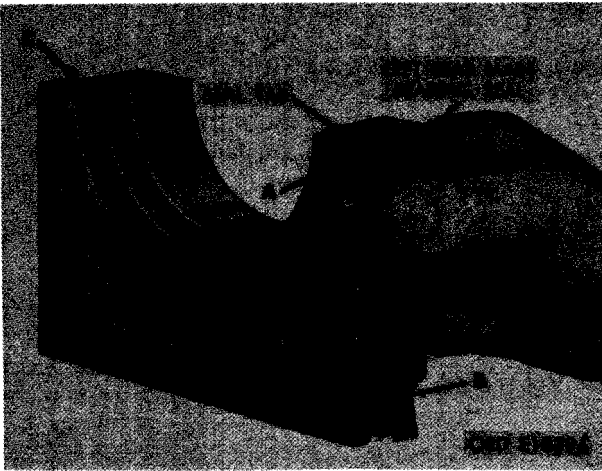

FIGURE 467. INSTALLING REAR MAIN BEARING CAP OIL SEALS.
Figure 467. (A) Apply a coating of Minnesota Mining and Manufacturing Co. cement (No. EC847) to the bottom surface of left rear main bearing seal tab and to the mating surface on the main bearing cap. Allow cement to set at least three minutes before installing seal. (B) Install left seal in bearing cap. The seals are designated as "left" or "right" depending on which side the tab extends when facing the grooved edge of the seal. (C) Install right rear main bearing seal in the same manner as steps A and B above.